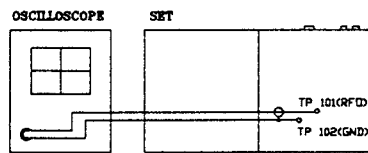

Fig. 5
2. Connect oscilloscope to the set as shown Fig. 5 Page 9.